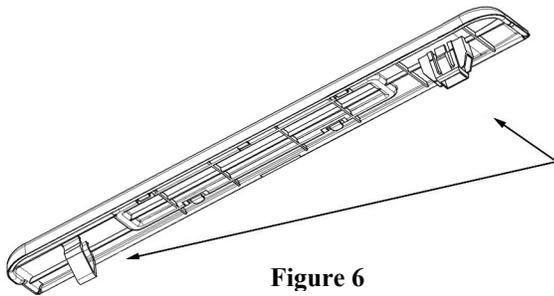
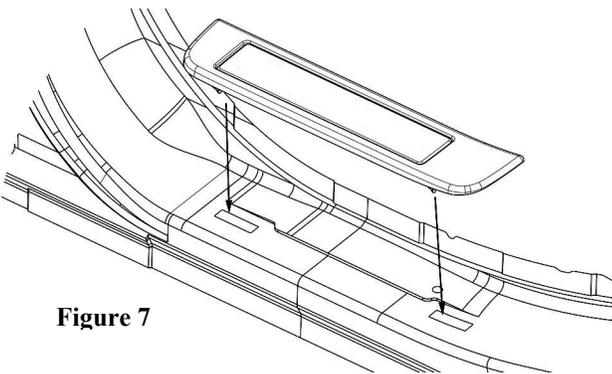

Figure 6
Figure 7
6. Starting from the rear, align the clips (Figure 6) on the aluminum kick plate assembly with the body holes. (Figure 7)